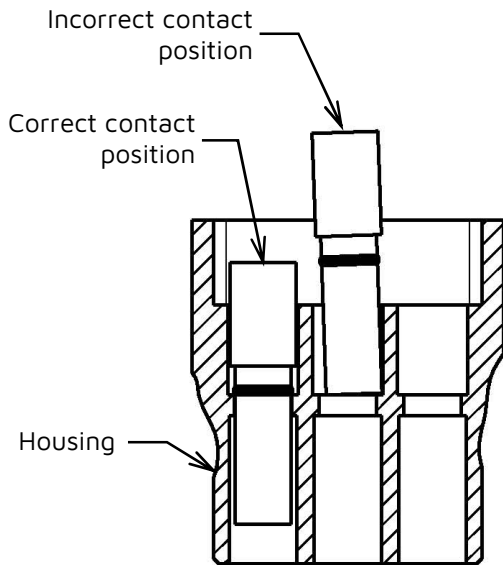

Figure 2 - Female contact position prior to final 'click-in'
4. Place the crimped contact partially into the housing. The correct position is reached when approximately 1.2-1.6mm of contact protrudes (see Figures 2 and 3).